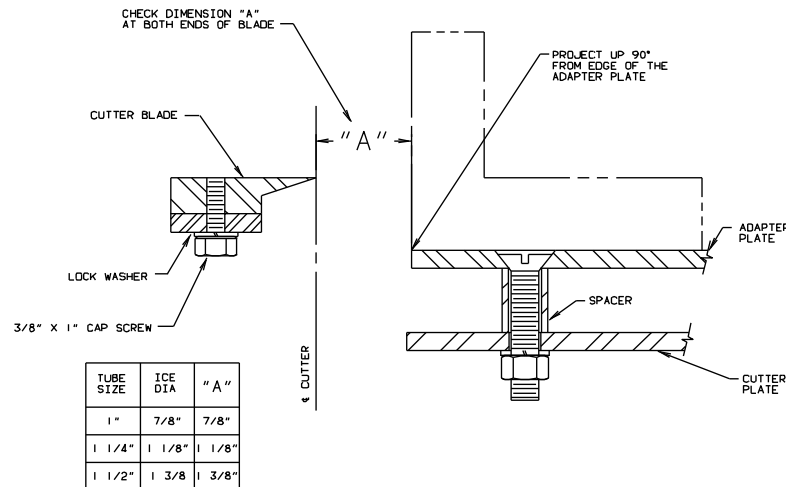

Figure 9-6
4. Refer to Figure 9-6; adjust each blade to dimension "A" and lock the blade in position by tightening the 3/8" cap screws. Note: Use a 90° square (as illustrated) to obtain the proper blade clearance required for satisfactory ice discharge. Dimension "A" is critical and should be measured at both ends of the blade. Note: 3/8" x 1" cap screw must be flush with cutter blade.
2. Locate the new adapter plate, holding the correct dimension "A" from the edge of the plate to the edge of the blade. See Figure 9-6.